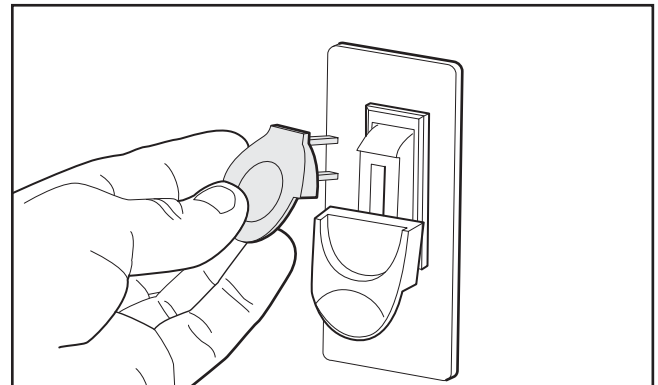

Figure 6. Removing switch key from paddle switch.
6. Remove the switch disabling key, as shown in **Figure 6**.